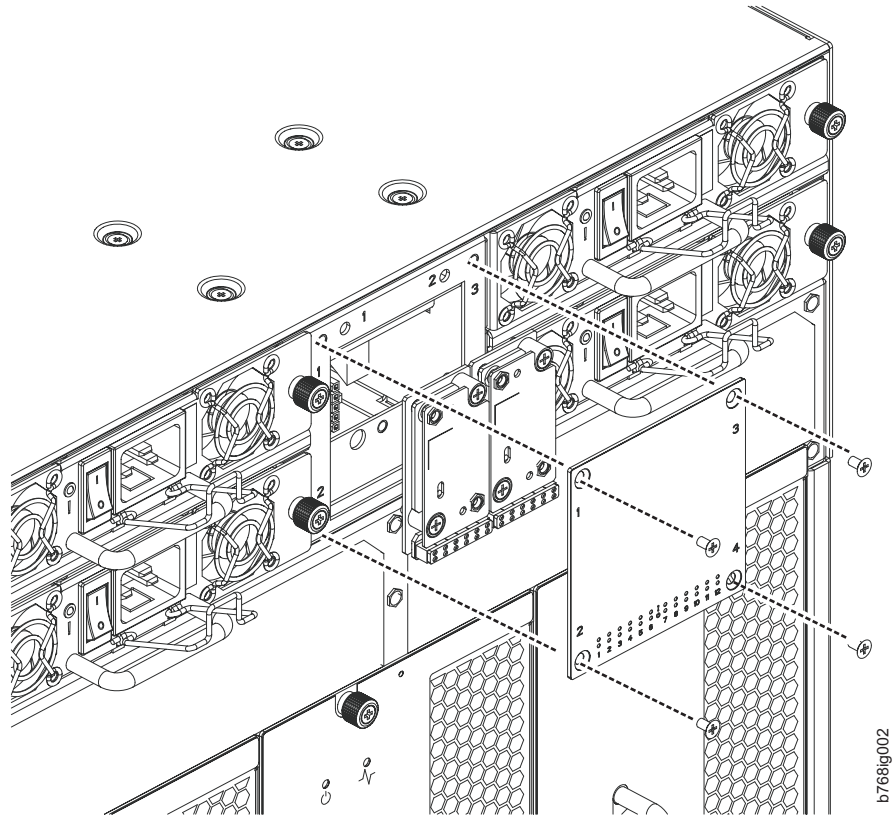

Figure 36. WWN bezel and card removal and installation
7. Remove the screws from the WWN bezel (see Figure 36). Pull the bezel away from chassis and set it aside. The WWN cards are visible.
6. Install the WWN bezel. Orient the bezel on the chassis (see Figure 36 on page 103). Insert and tighten the screws.